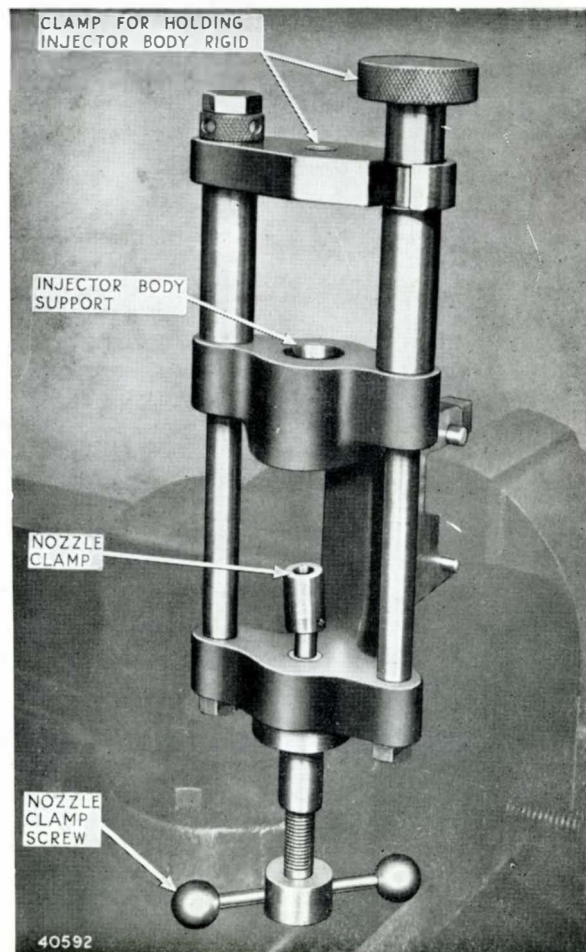

FIG. 61. NOZZLE AND NEEDLE ALIGNING JIG
2. Fit the injector body in the jig, Fig. 61.